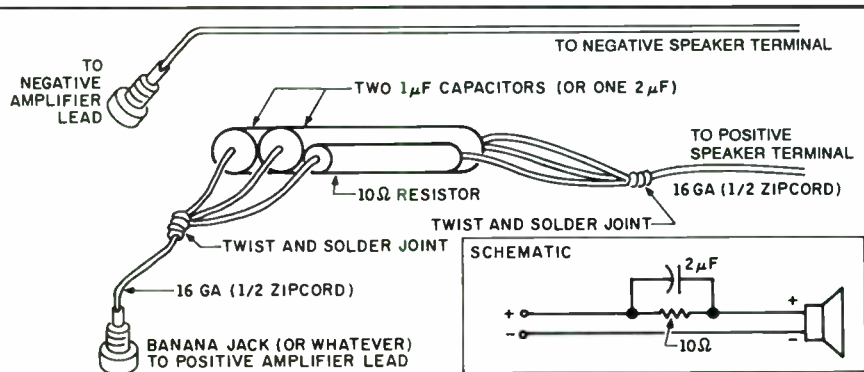

FIGURE 6: Simpline equalizing filter. The components should be glued to an inner wall.
**ADDING THE FILTER.** The filter consists of a  $10\Omega$ , 10W resistor paralleled with a  $2\mu\text{F}$  Mylar capacitor. When I say paralleled, I mean the resistor and the capacitor are lying side by side, with the wires at each end intertwined (Fig. 6). This filter is connected in series with the positive terminal of the driver.